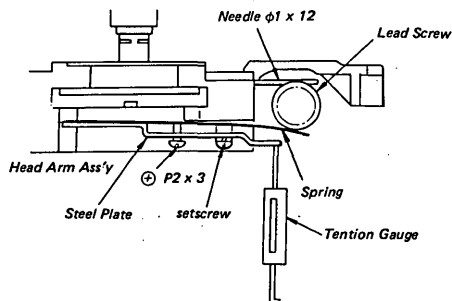

Fig. 5-5 Stepping Motor Load Torque
- a. Push up the steel plate near the lead screw with a spring balance. (Refer to Fig. 5-5)
- a. If the spring balance indicates a force of 50 g or less, fasten the setscrew (+P2x3). If it indicates 80 g or more, loosen the set-screw. (Refer to Fig. 5-5)